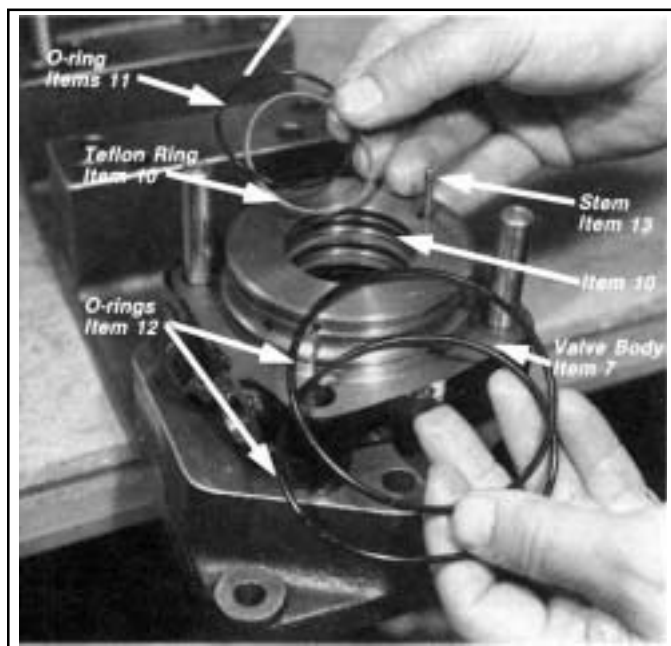

FIGURE 38 - VALVE BODY SEALS & O-RINGS
26. Remove the two outside O-rings (12) from the valve body, then remove the three Teflon rings (10) and the corresponding three O-rings (11) from the spindle bore. *Figure 38*
6. Install the two O-rings (12) on the valve body (7). Figure 38